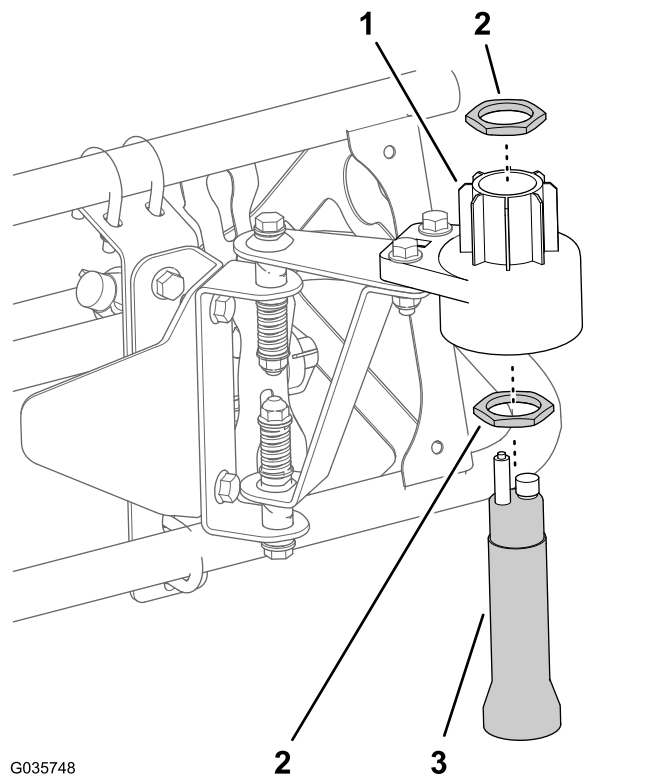

Figure 21
- A. Assemble a large nut onto the sensor (Figure 21).
- B. Insert the sensor into the lower sensor housing (Figure 21).
- D. Assemble the other large nut onto the sensor (Figure 21).